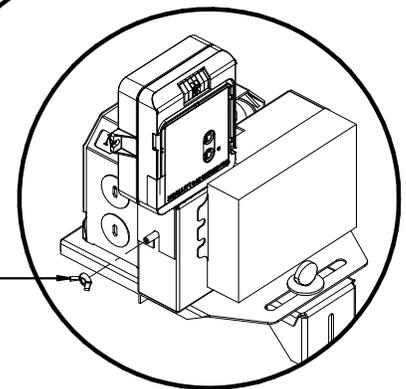

FIGURE 3
7. Secure the Vive controller to the driver assembly using wing nut (FIGURE 3).